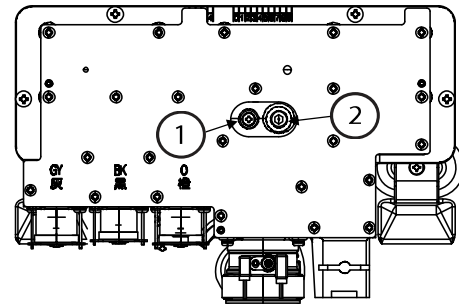

FIGURE 7
- 4) The manifold pressure will also have to be checked using a manometer (digital manometer is suggested). In order to check the gas manifold pressure, a tap is provided on the manifold plate inside the unit (Figure 7). The pressure can be checked either by removing the Philips head screw (1) and connecting a manometer with a silicon tube, or by removing the 1/8" NPT screw (2) with an Allen wrench and connecting the appropriate pressure gauge. Be sure to zero out the manometer before attaching it to the tap.